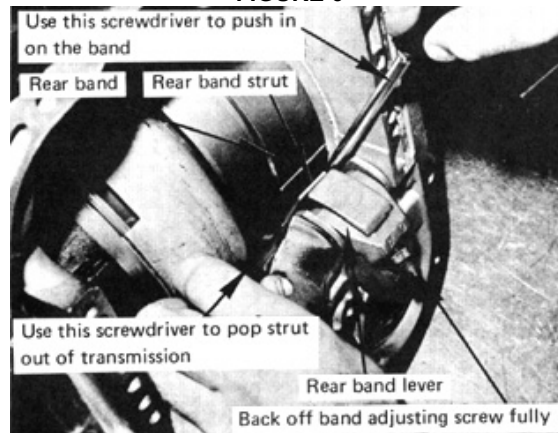
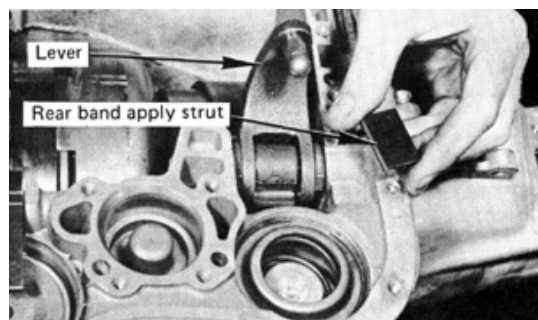

FIGURE 7
FIGURE 8
STEP 6. A-727 only. For A-904 or A-998 proceed directly to Step 9. Rear Band and Servo: Loosen rear band adjusting screw and back it out all the way. Use a long thin screwdriver off band adjusting screw fully to push in on the rear band. (See Fig. 7.) This will allow the band apply strut to drop out of place for removal. After the strut has been removed, the band apply lever can rotate down to gain access to the rear servo. (See Fig. 8.) Remove the rear servo retainer snap ring with a screwdriver. Hold the retainer in place with your other hand so the spring does not jump out and cause lost parts or injury. Remove the retainer, servo return spring and servo piston. Discard servo return spring. Remove the piston slowly to avoid splattering oil. Inspect your servo to determine which model you have:
STEP 8. Rotate band apply lever up and hold in position. Insert rear band apply strut into place. This is the reverse of the method used to remove the strut originally. (See Fig. 7.)